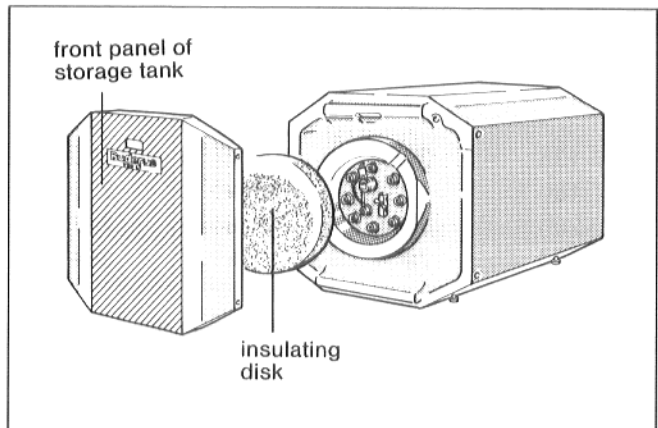

Fig. 5
- Remove the front panel of the storage tank toward the front and take out the high-resilient foam insulating disk (Fig. 5).